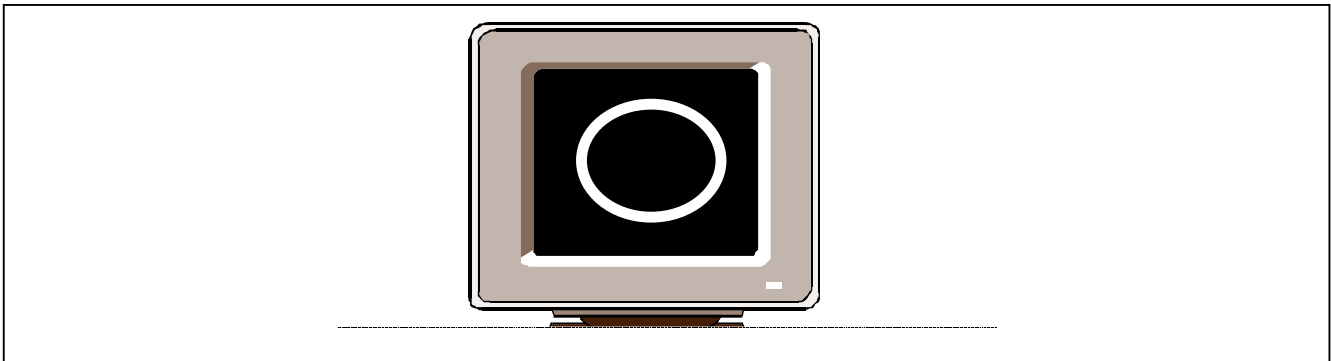

Figure 8-2 On screen checking area of static focus
12. Adjust the static focus with the focus potentiometer on the line output transformer. Set the static focus while looking at screen area shown in Figure 8-2 On screen checking area. The white circle is the area you should adjust for perfect focus.